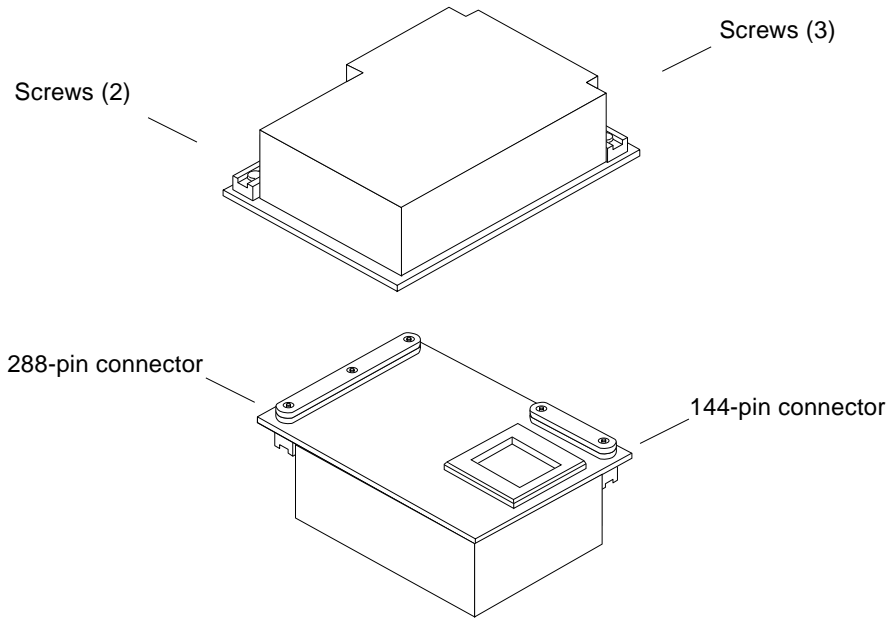

FIGURE 3-8 UltraSPARC II Module Connectors
Each CPU/Memory+ board has four connectors for UltraSPARC II modules (up to two modules per board, two connectors per module). For each module, there is a connector with 144 pins and a connector with 288 pins (FIGURE 3-8).
2. Use a 3/32 Hex driver to loosen all screws on each of the compression connectors on the module to be removed (three screws for the 288-pin connector, two screws for the 144-pin connector) (FIGURE 3-8).